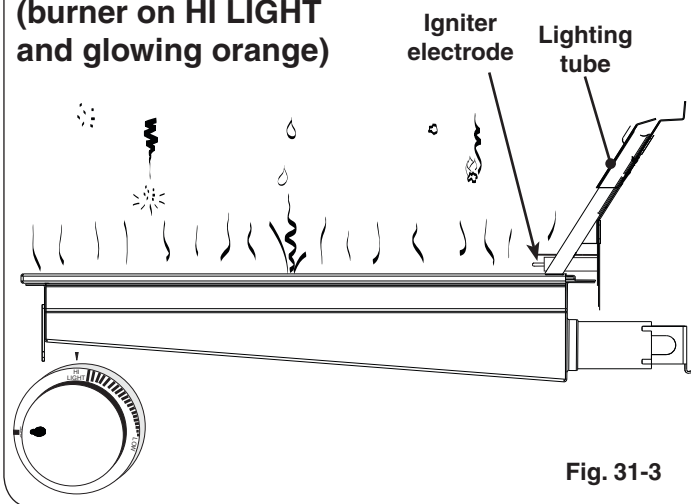

Fig. 31-3
- **DO NOT place food on the cooking grid until the IR burner glows orange (Fig. 31-3).** Drippings are heated and evaporate instead of sticking to and impairing burner function.